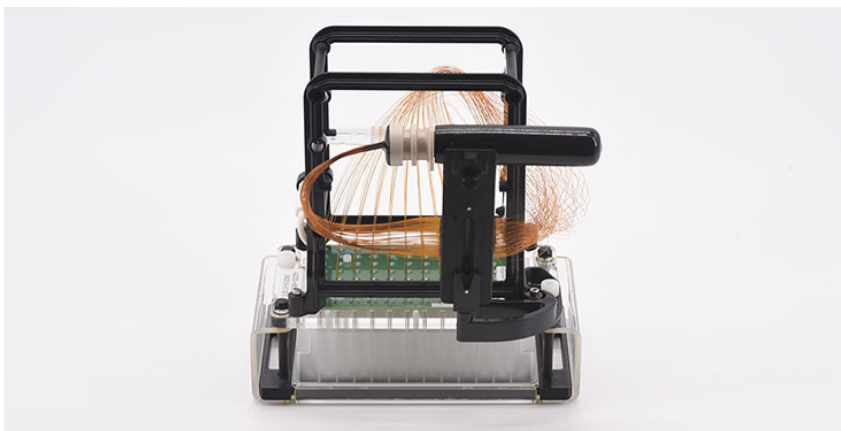

Figure 102 Array docking station with capillary array installed
- 5 Insert the two white screws as shown in **Figure 102** to tighten the capillary array into place.